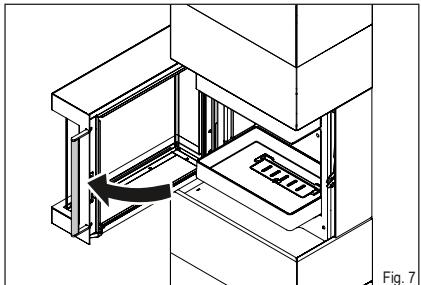

Fig. 7
- ▶ Open the firebox door (Fig. 7).